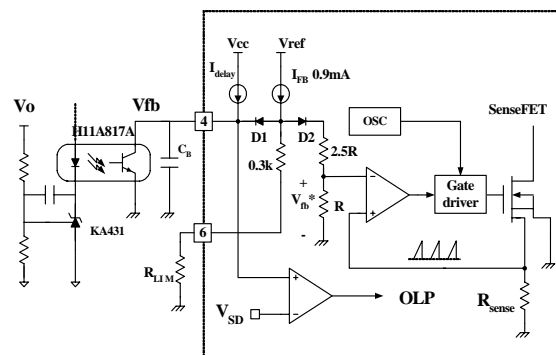

Figure 18. Pulse Width Modulation (PWM) Circuit
2. Feedback Control: The FSCM0765R employs current mode control, as shown in Figure 18. An opto-coupler (such as the H11A817A) and a shunt regulator (such as the KA431) are typically used to implement the feedback network. Comparing the feedback voltage with the voltage across the R_sense resistor makes it possible to control the switching duty cycle. When the reference pin voltage of the KA431 exceeds the internal reference voltage of 2.5V, the H11A817A LED current increases, thus pulling down the feedback voltage and reducing the duty cycle. This event typically happens when the input voltage is increased or the output load is decreased.
2.1 Pulse-by-pulse Current Limit: Because current mode control is employed, the peak current through the SenseFET is determined by the inverting input of the PWM comparator (V_{fb}^*) as shown in Figure 18. When the current through the opto transistor is zero and the current limit pin (#5) is left floating, the feedback current source (I_{FB}) of 0.9mA flows only through the internal resistor ($R+2.5R=2.8k$). In this case, the cathode voltage of diode D2 and the peak drain current have maximum values of 2.5V and 3A, respectively. The pulse-by-pulse current limit can be adjusted using a resistor to GND on the current limit pin (#5). The current limit level using an external resistor (R_{LIM}) is given by: